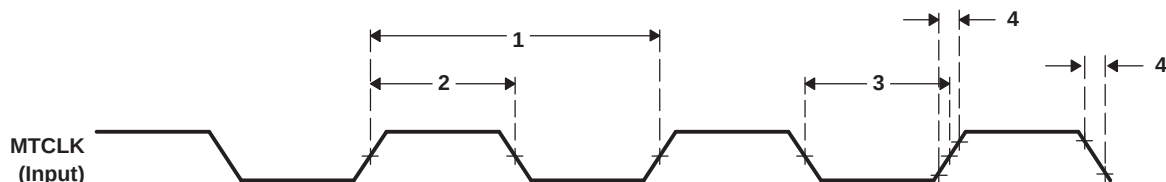

**Figure 7-51. MTCLK Timing (EMAC – Transmit) [MII and GMII Operation]**
**Table 7-73. Timing Requirements for MTCLK - MII and GMII Operation (see Figure 7-51)**